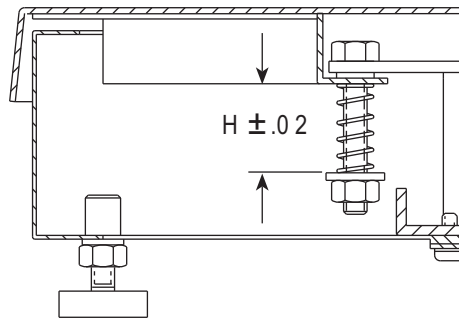

Figure 4-2. Spring Height
11. Using an accurate caliper, check compressed spring length on four overload springs (Figure 4-2). If necessary, adjust spring length to specifications shown in Table 4-2. Replace top cover and re-level scale if necessary.